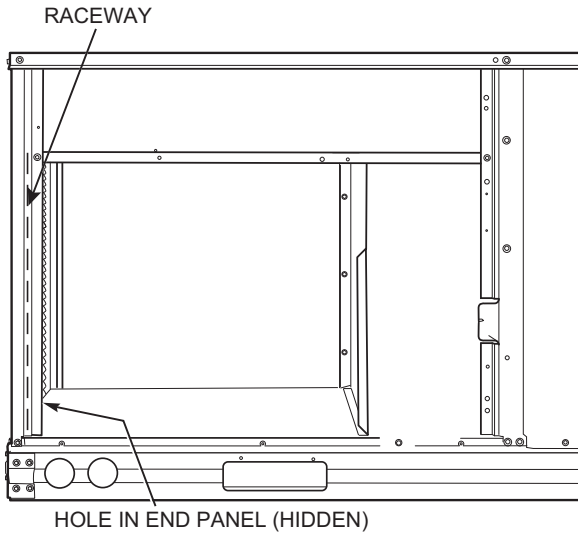

Fig. 29 — Field Control Wiring Raceway
Pass the thermostat control wires through the hole provided in the corner post; then feed the wires through the raceway built into the corner post to the control box. Pull the wires over to the terminal strip on the upper-left corner of the Unit Control Board. See Fig. 29.
2. Feed wires through the raceway built into the corner post (see Fig. 29) to the 24v barrier located on the left side of the control box. The raceway provides the UL-required clearance between high-voltage and low-voltage wiring.
2. Feed wires through the raceway built into the corner post (see Fig. 29) to the 24-v barrier located on the left side of the control box. The raceway provides the UL-required clearance between high-voltage and low-voltage wiring.